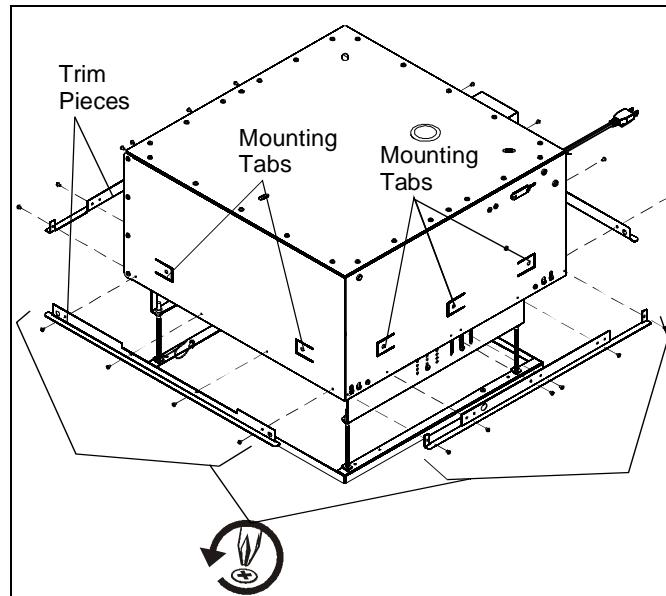

Figure 8
NOTE: The side trim may need to be removed to properly fit the lift into a 600x600mm suspended ceiling. Remove and discard retaining screws and trim pieces from each of the four sides. (See Figure 8)
1. Use 1/4" x 1-1/2" (minimum) Grade 2 lag screws (not provided) to secure SL151i to the joists or wood framework, using the mounting tabs located on the sides of the SL151i housing. (See Figure 8)